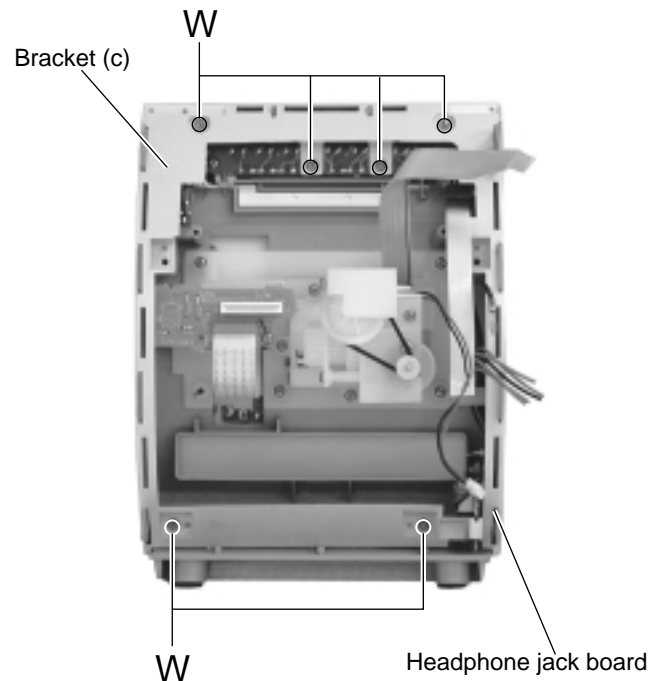

Fig.31
■ Removing the headphone jack board (See Fig.31)